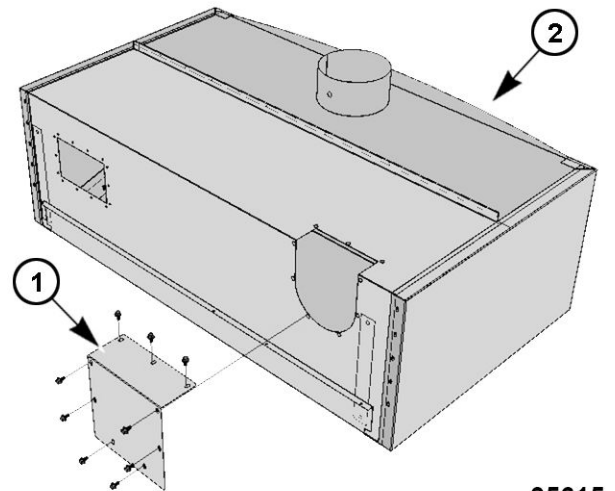

Fig. 129
1. Install exhaust connection plate (1, Fig. 129) to hood assembly (2, Fig. 129).